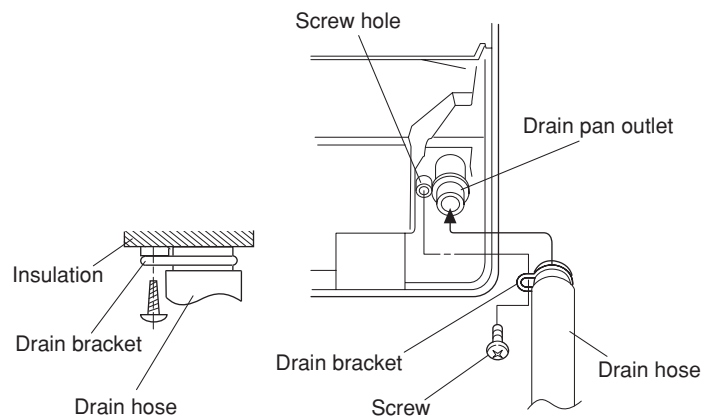

**Fig. 40a**
- (d) Reattach the drain hose to the left side and the drain cap to the right side. (Fig. 40a)
- (3) Install the indoor unit on the rear panel.
- (4) Connect the tubing and wiring led inside from outdoors.
- (5) After completing a leak test, bundle the tubing together with armoring tape and store it inside the tubing storage area at the back of the indoor unit and hold it with clamps. (Figs. 40a and 41)